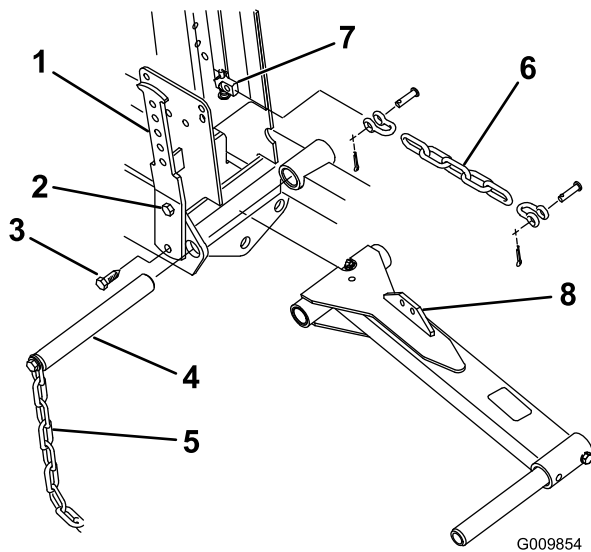

Figure 6
- Loosen the top bolt securing the left counterbalance arm to the frame (Figure 6).
- Remove the bottom bolt and nut securing the left counterbalance arm to the frame (Figure 6).
- Rotate the counterbalance arm outward and remove the lift arm pivot pin and tipper chain (Figure 6).
- Position the lift arm between the frame members, align the mounting holes, and install the pivot pin (Figure 6). Insert the pivot pin so that the counterbalance arm fits into the slot in the pin. Do not secure the counterbalance arm at this time.